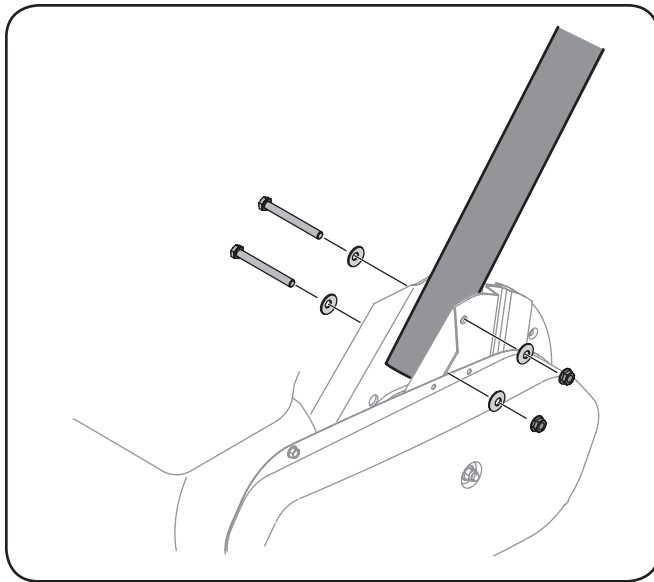

Figure 3-4
1. Remove the bolts, washers and nuts from the chain case bracket. See Figure 3-4.
2. Place the handle into position and secure with the previously removed hardware. See Figure 3-4.